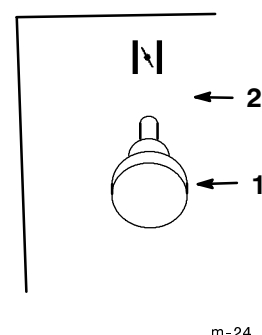

Figure 5
6. Move throttle lever to “FAST” (Fig. 5).
9. After the engine starts, move the choke lever to “OFF” (Fig. 5). If the engine stalls or hesitates, move the choke lever back to “ON” for a few seconds. Then move the throttle lever to desired setting. Repeat this as required.